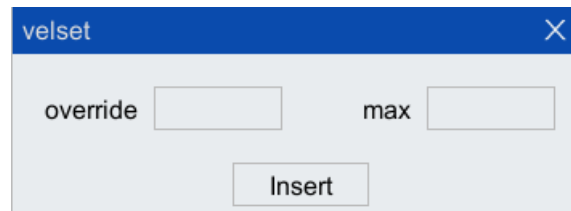

Figure 5-53 "velset" instruction configuration interface
Step1.Click "Insert Cmd> auxiliary instruction> velset" option in the toolbar of the program editor to pop up "velset" instruction box, as shown in Figure 5-53.